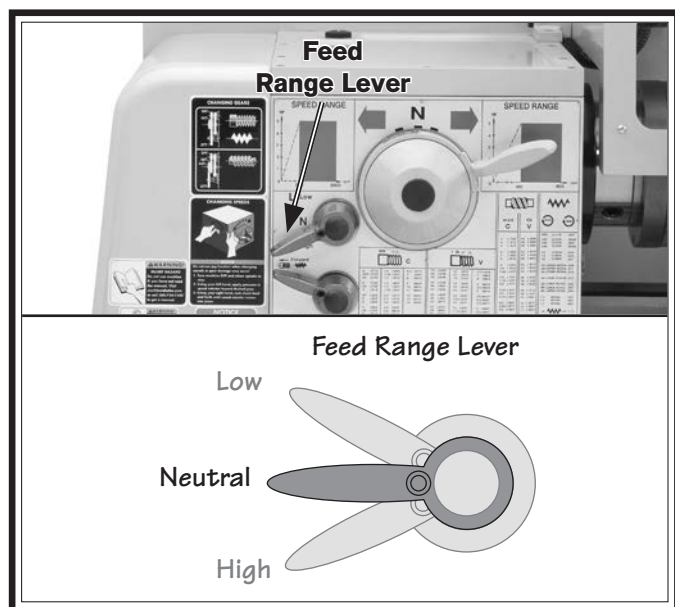

Figure 23. Feed range lever.
6. Disengage the quick-change gearbox by moving the feed range lever to the neutral (middle) position, as shown in **Figure 23**.